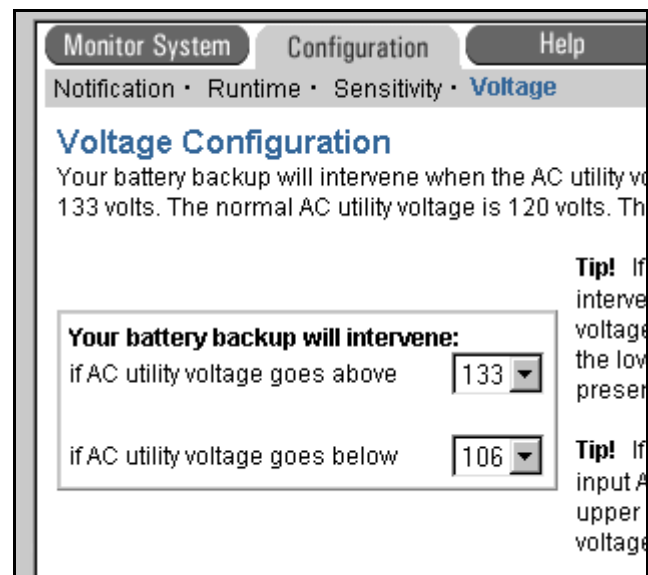

FIG. 5
5. Select the final subtab called Voltage. For North American applications, make sure that 133 is selected from the drop down box next to "If AC utility voltage goes above" and that 106 is selected from the drop down box next to "If AC utility voltage goes below". Australian settings should be 266 (top) and 180 (bottom). See FIG. 5.